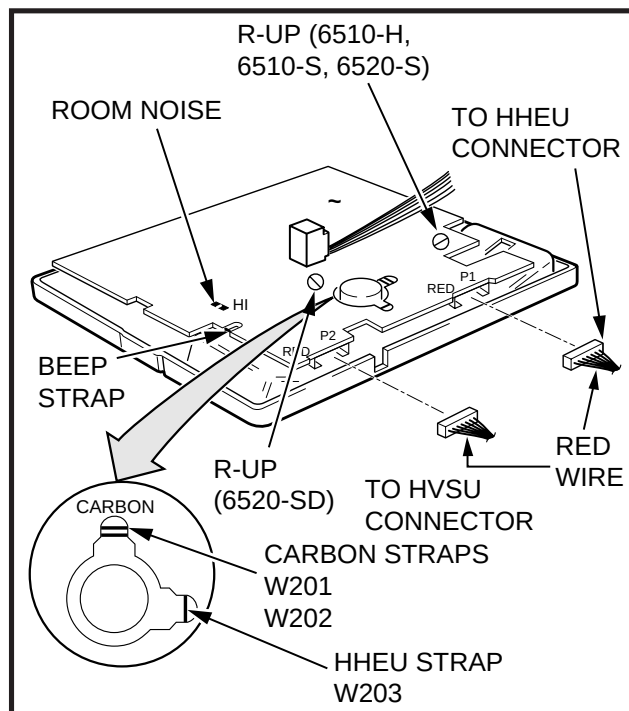

FIGURE 7-13
- 3) Connect the HVSU2 wire plug to the **P2** connector on the printed circuit board (PCB) in the telephone (Figure 7-13).
- 4) Connect the HVSU/HVSI subassembly wire plug to the **P2** connector on the electronic telephone PCB (Figure 7-13).
- 2) Refer to Figure 7-13, and locate the **CARBON** straps, **W201** and **W202**. Cut both straps.
- 2) Locate and cut the **BEEP** strap on the telephone printed circuit board (PCB) (Figure 7-13).
- 2) Locate the **ROOM NOISE** switch on the printed circuit board (PCB) inside the telephone, and push it carefully to the **HI** (high) position (Figure 7-13).
- 2) Locate the **R-UP** strap on the printed circuit board (PCB) inside the telephone, and cut it (Figure 7-13).
- 7) Connect the HHEU subassembly wire plug to the **P1** connector on the electronic telephone PCB (Figure 7-13).